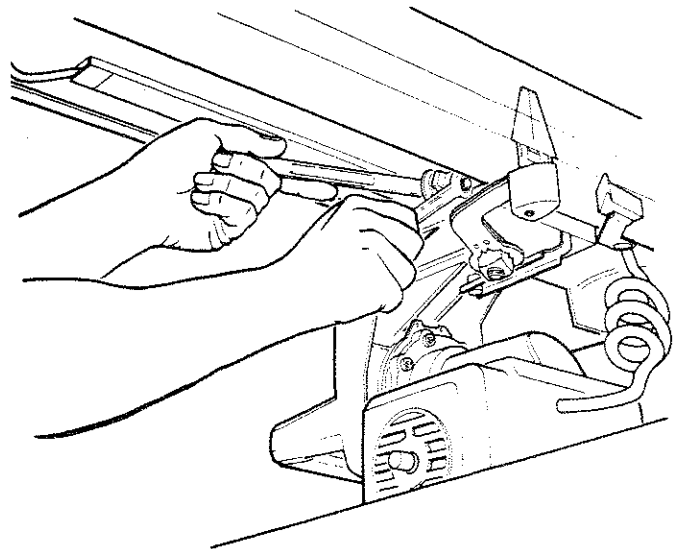

Fig. 66
6. Loosen the hex nut on the *rear carriage bearing*. Use a 9/16 inch wrench to hold the bolt and a 1/2 inch wrench to loosen the nut. (Figure 66)